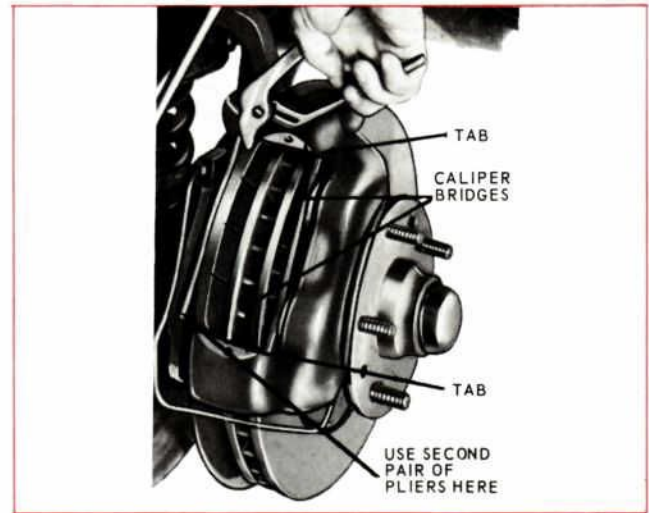

Figure 7—Removing Disc Brake Shoe And Lining Assembly
1. Remove the wheel and tire, caliper splash shield, and the shoe and lining assembly. Be careful to avoid damage or interference with the caliper splash shield, bleeder screw fitting or transfer tube. Figure 7.